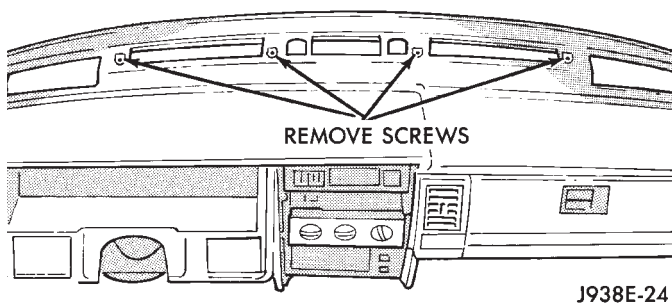

Fig. 2 Upper Dash Pad Attaching Screws
- (4) Remove center bezel.
- (5) Remove 2 screws holding dash pad located behind top of center bezel.
- (6) Gently pry defroster grille out of dash pad.
- (7) Unplug sensors (if equipped) and set defroster grille aside.
- (8) Remove 4 screws in defroster duct opening holding dash pad (Fig. 2).